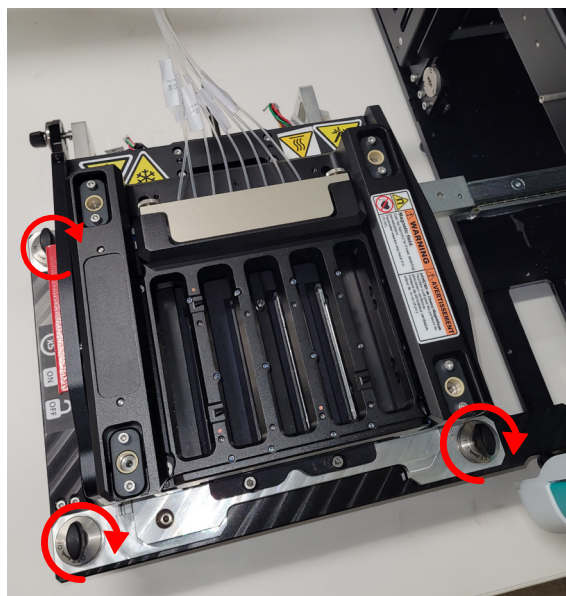

Figure 128.
12. With the entire core now accessible, locate the 3 remaining cradle locks (shown in the Figure 128) and unlock by switching to the OFF position